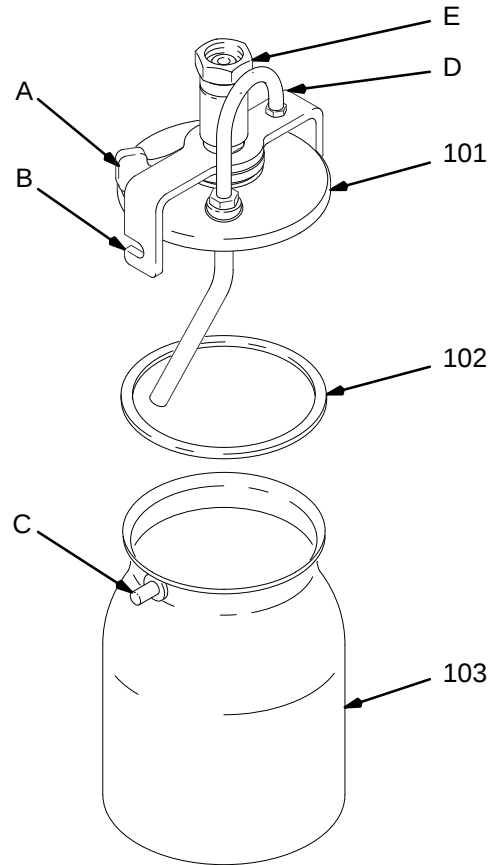

Fig. 3
1. Push the clamp lever (A) fully to the unclamped position, against the yoke (B). See Fig. 3.
2. Twist the cup lid (101) counterclockwise to disengage the yoke hook from the cup extended pins (C).
3. Remove the cup lid (101) and fill the cup with fluid.
4. Twist the cup lid (101) clockwise to engage the yoke (B) hook, then push the clamp lever (A) fully to the clamped position. Use your thumb to force the clamp lever into position; do not use wrenches or tools to move it.
5. Securely connect the cup assembly onto the gun fluid inlet, using a wrench on the swivel nut (E).
3. Remove the cup lid (101).
4. Clean the cup lid (101) and cup (103) with solvent.